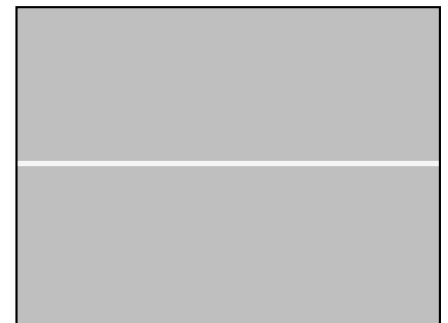

Fig. 2-3
2. Press "10" key of the numeric channel keypad to get a horizontal single line screen. (Fig. 2-3)